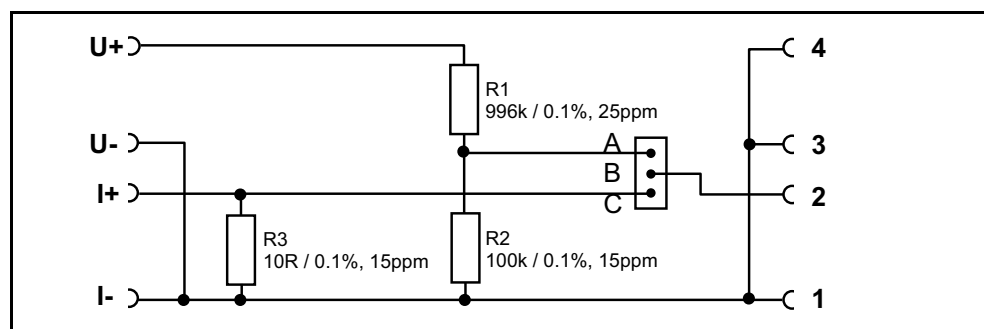

Figure 10 Circuit diagram U/I input plug
The circuit diagram of the U/I input plug is shown in figure 10.
3. If the U/I input plug is to be used in connection with another (“customer-specific”) special characteristic, the voltage divider R1, R2 or the current shunt R3 of the U/I input plug must be taken into account in the characteristic input (see circuit diagram figure 10).